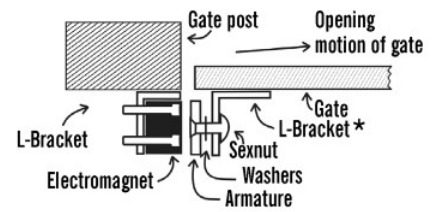

FIG. 3 - Installation on a double-swing gate
2. **Double-swing gate** (fig. 3) — Two gates swing in the same direction when activated. The electromagnet is fixed to the free end of one gate, and the armature is fixed to the free end of the other via a Z-bracket. **IMPORTANT:**